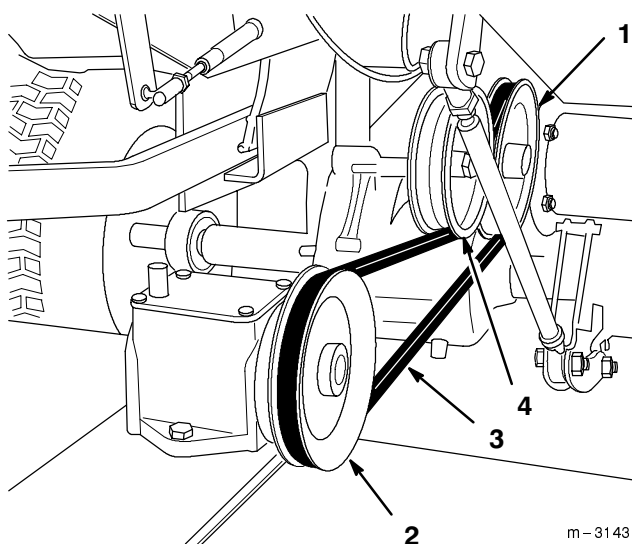

Figure 24
3. Install the new drive belt around the jackshaft pulley, on the traction unit, and the gearbox pulley on the mower (Fig. 24).
4. Raise the idler pulley and position over the upper portion of the drive belt (Fig. 24).